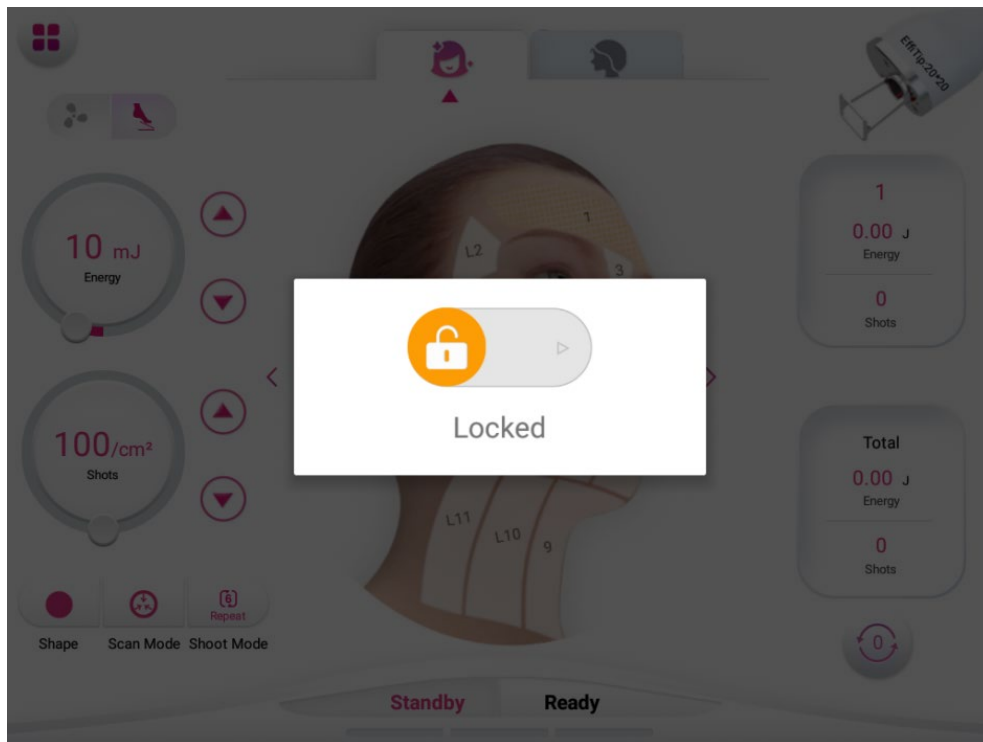

Figure 3-6
⑰**Locked:** click locked and the screen will be locked, swipe right and put password to continue. (Figure 3-6)